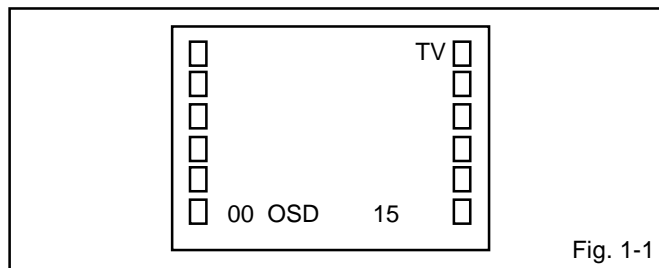

Fig. 1-1
Press the VOL. DOWN button on the set and the Channel button **(9)** on the remote control for more than 1 second to appear the adjustment mode on the screen as shown in **Fig. 1-1**.
3. Activate the adjustment mode display of **Fig. 1-1** and press the channel button **(02)** on the remote control to select "RF AGC".
2. Activate the adjustment mode display of **Fig. 1-1** and press the channel button **(01)** on the remote control to select "CUT OFF".
4. Activate the adjustment mode display of **Fig. 1-1** and press the channel button **(13)** on the remote control to select "R. BIAS".
3. Activate the adjustment mode display of **Fig. 1-1** and press the channel button **(04)** on the remote control to select "H. POSI".